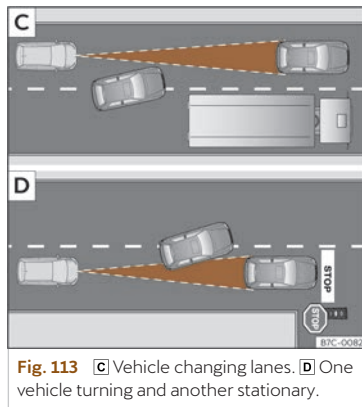

Fig. 113 **C** Vehicle changing lanes. **D** One vehicle turning and another stationary.
- Vehicles that move into your lane, a short distance from your vehicle >>> **Fig. 113 C**.
The ACC does not react to stationary vehicles. If, for example, a vehicle detected by the ACC turns or moves over and there is a stationary vehicle in front of it, the ACC will not react to the second vehicle >>> **Fig. 113** .